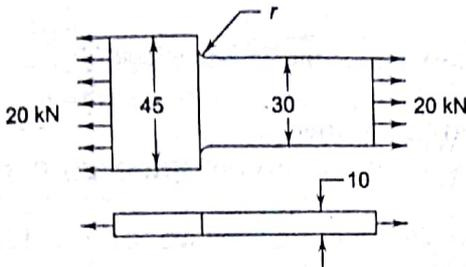

Fig. 5.61
5.4 **S** A plate, 10 mm thick, subjected to a tensile load of 20 kN is shown in Fig. 5.61. The plate is made of cast iron ($S_{ut} = 350 \text{ N/mm}^2$) and the factor of safety is 2.5. Determine the fillet radius.